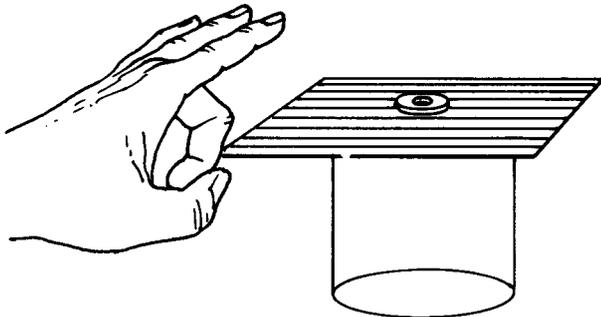

Figure 5-5
1. Place the index card and the metal washer over the beaker (Fig. 5-5).